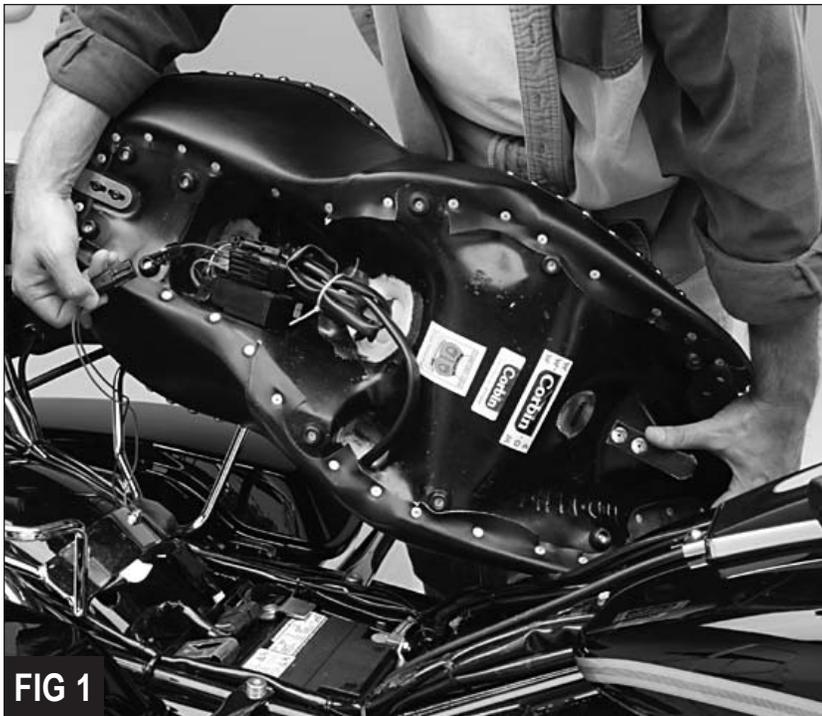

FIG 1
3. Your Corbin Dual Touring saddle comes prewired with the switch, heating elements and controller already in place on the saddle. The only special installation required is to wire the appropriate adapter to the quick release pigtail into your fuse box and connect it to the seat. Refer to Figure 1 and note the location of the quick release at the rear of the saddle.
6. Layout the pigtail leaving yourself approximately eight inches of slack and zip tie it to the chassis. Again, refer to Figure 1 for the correct location. Be sure to route the wiring where it will not be pinched against the chassis by the seat or other objects as this could cause a short.